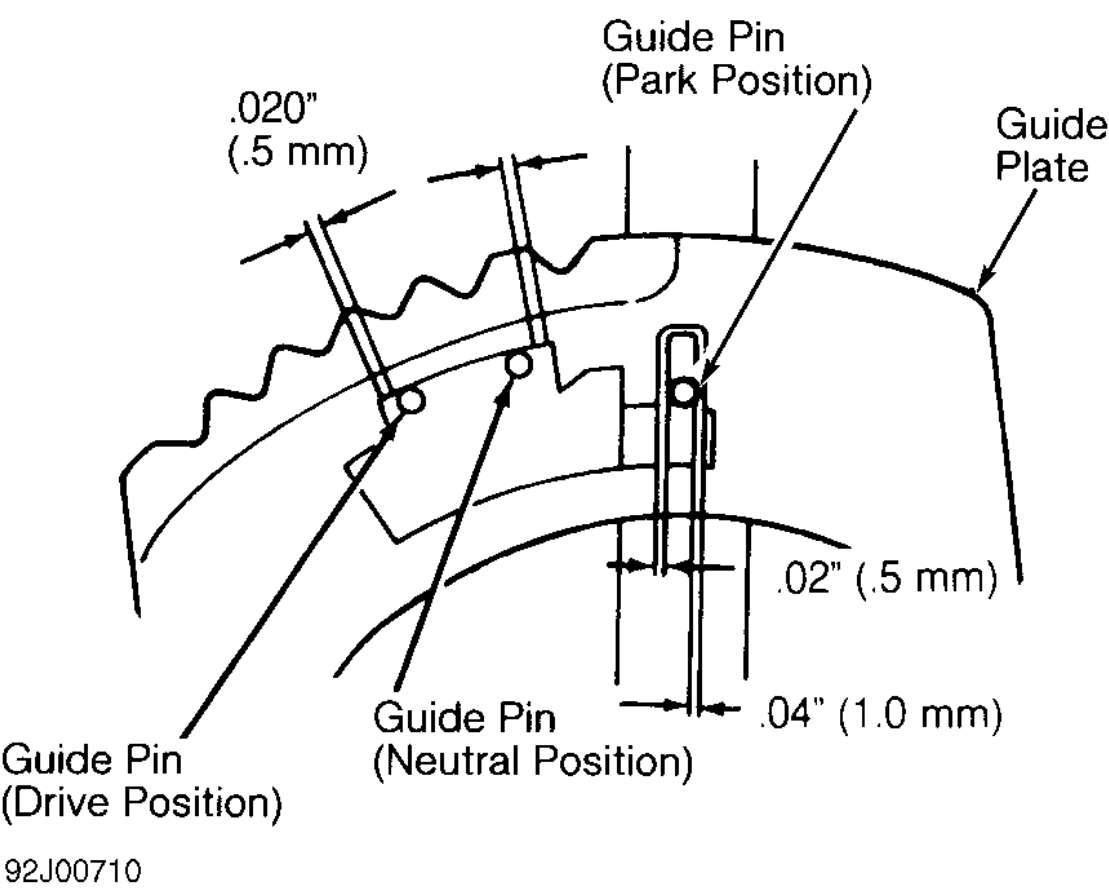

Fig. 2: Checking Guide Pin Clearances
3. Lightly press selector push rod and make sure guide pin clearance is correct. See Fig. 2 . Check guide pin clearance when shift lever is in Neutral and Drive. Readjust shift cable as necessary.